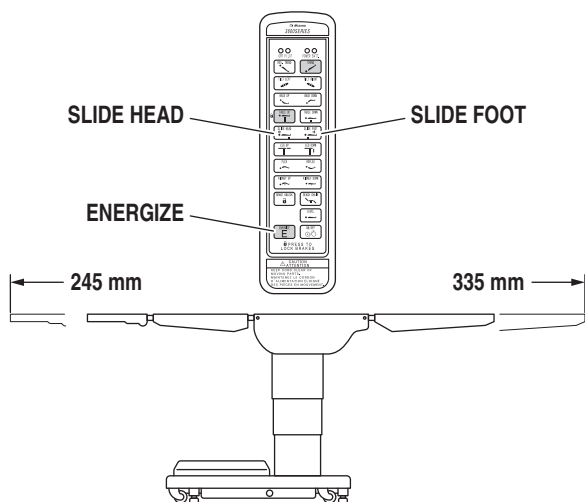

Figure 2-11. Top Slide
f. Top Slide To move the table top toward the head end, press the ENERGIZE button and then the SLIDE HEAD button. From center position, the top will slide up to 245 mm. See figure 2-11.